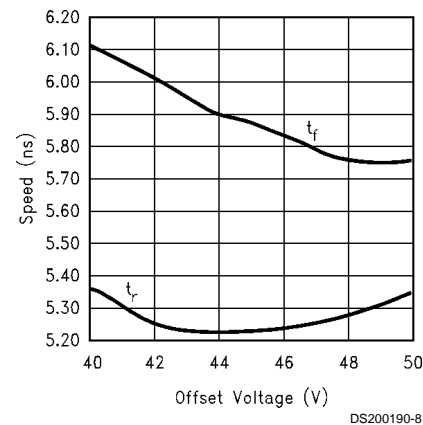

FIGURE 7. Speed vs Offset
*Figure 7* shows the variation in rise and fall times when the output offset of the device is varied from 40 to 50 VDC. The rise time increases less than 0.20nsec from its fastest point near 45V. The fall time becomes faster as the offset voltage increases, but the 45V offset is only 0.1nsec slower than the fastest fall time.